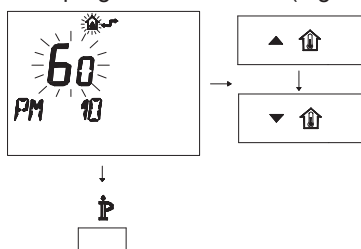

Fig. 8.29
- To modify the programmed SET, act on buttons **▲** and **▼** and wait for the number programmed to flash (Fig. 8.29).